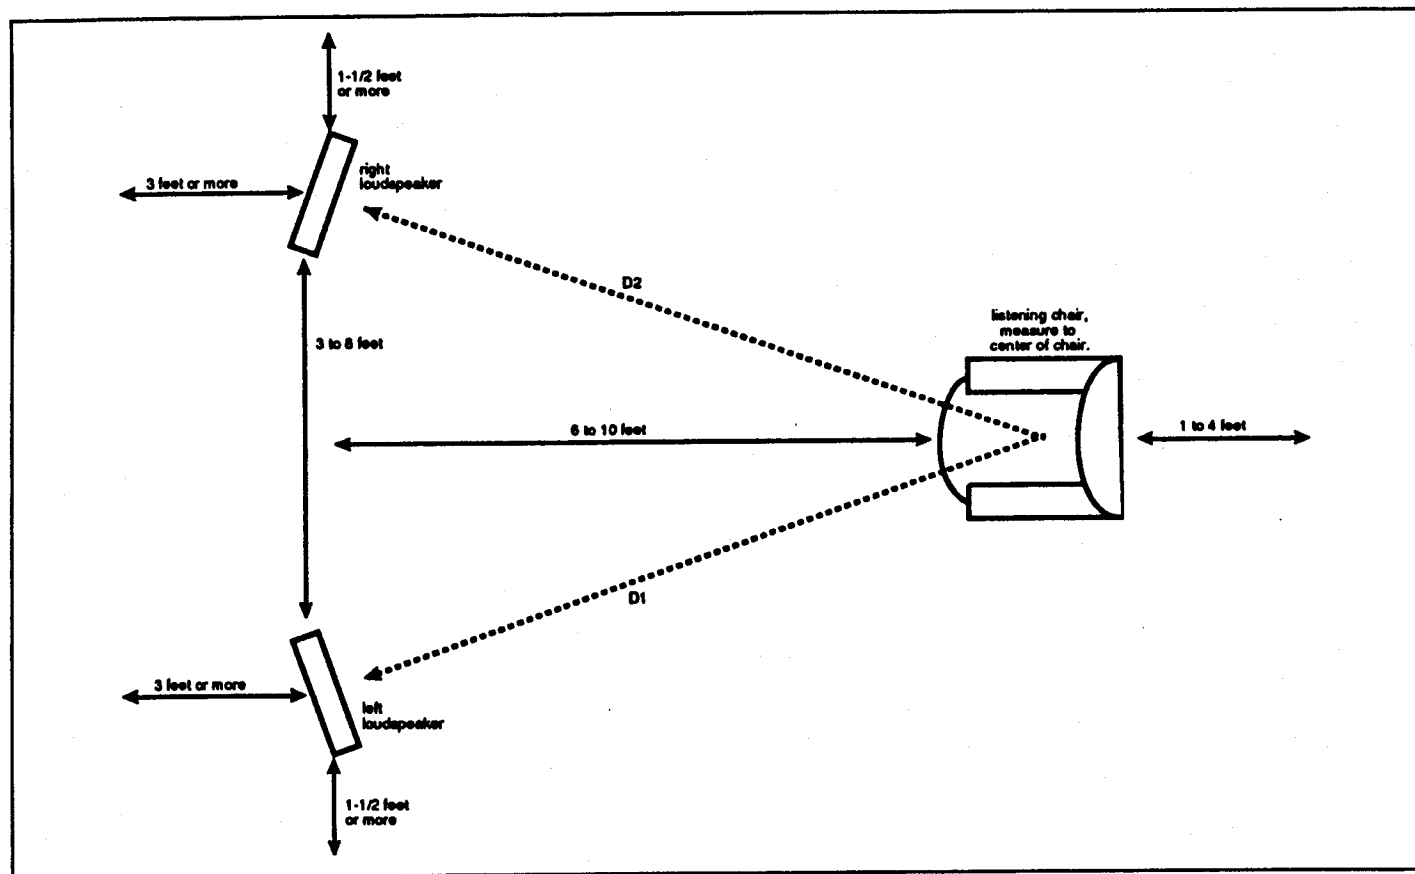

Figure 4 Initial Set Up
To perform the set-up, you'll need a steel tape measure and listening chair. Refer to Figure 4 and follow this 5-step procedure:
5. Carefully measure the distance from the CENTER of the left speaker's top woofer to the CENTER of the listening chair. Repeat the measurement for the right speaker. Adjust the chair so that both distances (D1 and D2 in Figure 4) are exactly the same. Accuracy within 1/4 INCH is desired.